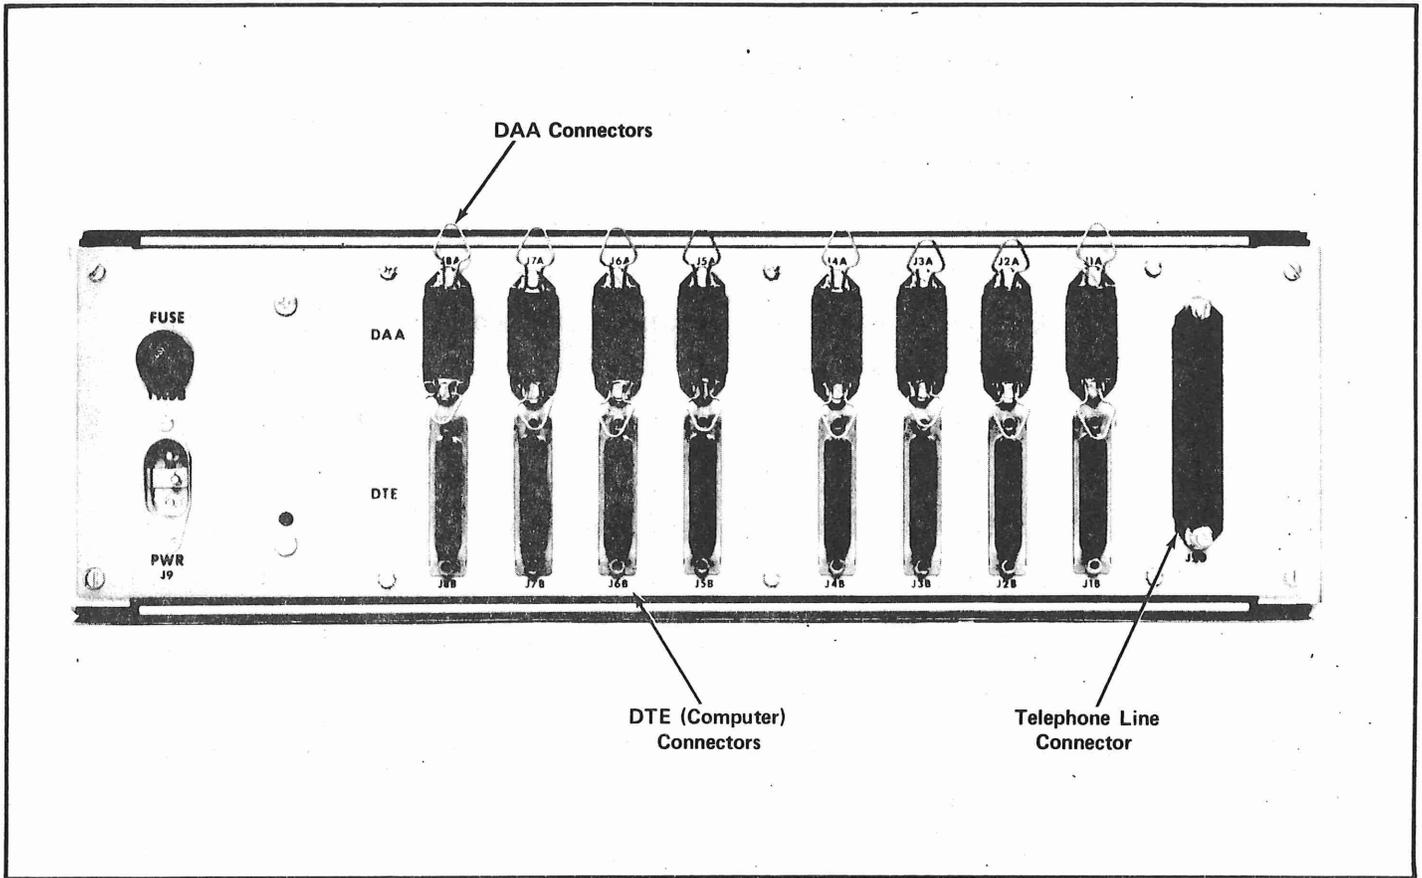

Figure 2-2. Modem Rear Panel
2.04 The rear panel (figure 2-2) has receptacles for connection to the DTE along with direct connection to the incoming telephone lines or through type CBS Data Access Arrangements (DAA). See Section 4, Installation.
4.04 If access to the communications network is to be through a CBS-type DAA, then a DAA cable (optional purchasable item number 07751-00) should be connected to each of the DAA connectors for the appropriate channels used (see figure 2-2). The DAA receptacle is an Amphenol type 57-30140 or equivalent and mates with an Amphenol type 57-30140 or equivalent. A description of pin assignments, function, and operation is given in table 4-3. If other than a Plantronics DAA cable is used then an 1800-ohm, 1/8 watt or better, carbon resistor should be strapped across the DT and DR terminals of the DAA.